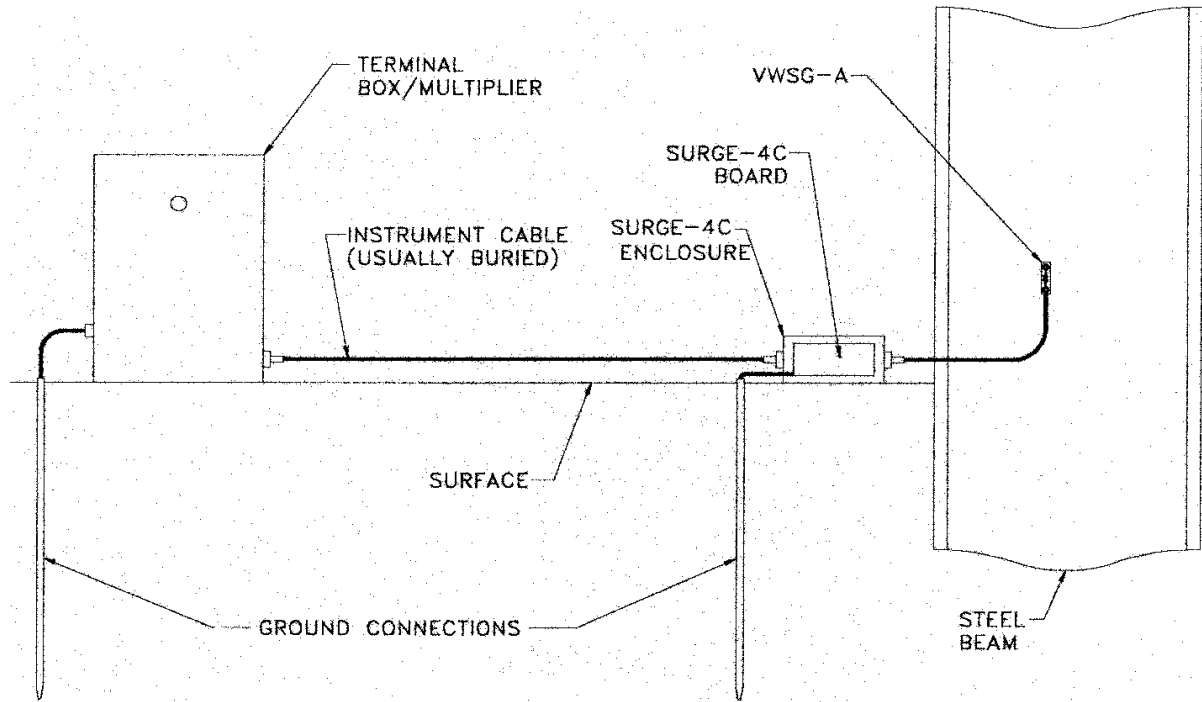

Figure 3: Lightning Protection Scheme
- Lightning arrestor boards and enclosures are available from RST that install at the exit point of the instrument cable from the structure being monitored. The enclosure has a removable top, so in the event the protection board (Surge 4C) is damaged, the user may easily service the components (or replace the board). A connection is made between this enclosure and earth ground to facilitate the passing of transients away from the Strain Gauges. See Figure 3.